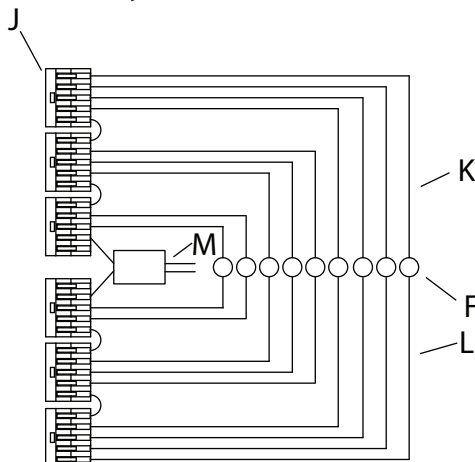
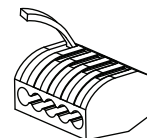

Fig. 3
Fig. 2
1. Shut off power to the outlet box (A).
2. Unscrew glass (B) from fixture (C).
3. Determine the height at which the fixture is to be hung. Use the screwdriver (D) to loosen the set screws (E). Feed the power cords (F) through the bushings (G) on the canopy (H). Adjust the cords (F) to the desired length. Tighten the set screws to set.
4. Connect the fixture wires to the lever nuts (J) by pulling up on the lever for an empty slot (Fig. 2), inserting the wire, and pushing the lever back down to lock. The white inner conductor (K) and black outer conductor (L) on each cord (F) must be connected to separate lever nuts, as shown (Fig. 3).
5. Reserve transformer (M), extra cords (F) and lever nuts (J) in canopy (H).